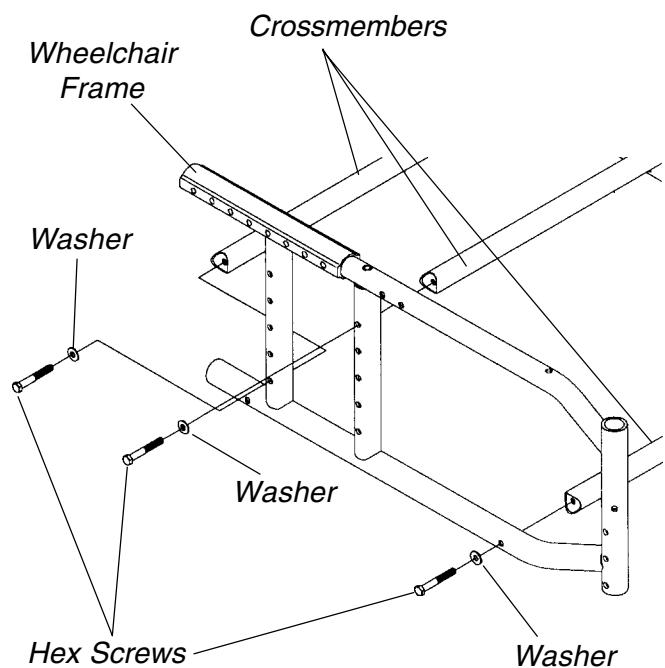

FIGURE 6 - CHANGING SEAT WIDTH - RIGID FRAMES
Rigid Frames (FIGURE 6)
3. Remove the six (6) hex screws and washers that secure the three (3) existing rigid crossmembers to the wheelchair frame.
4. Install the new crossmembers onto the wheelchair by reversing **STEP 3**. Refer to **FIGURE 6** for correct hardware orientation.